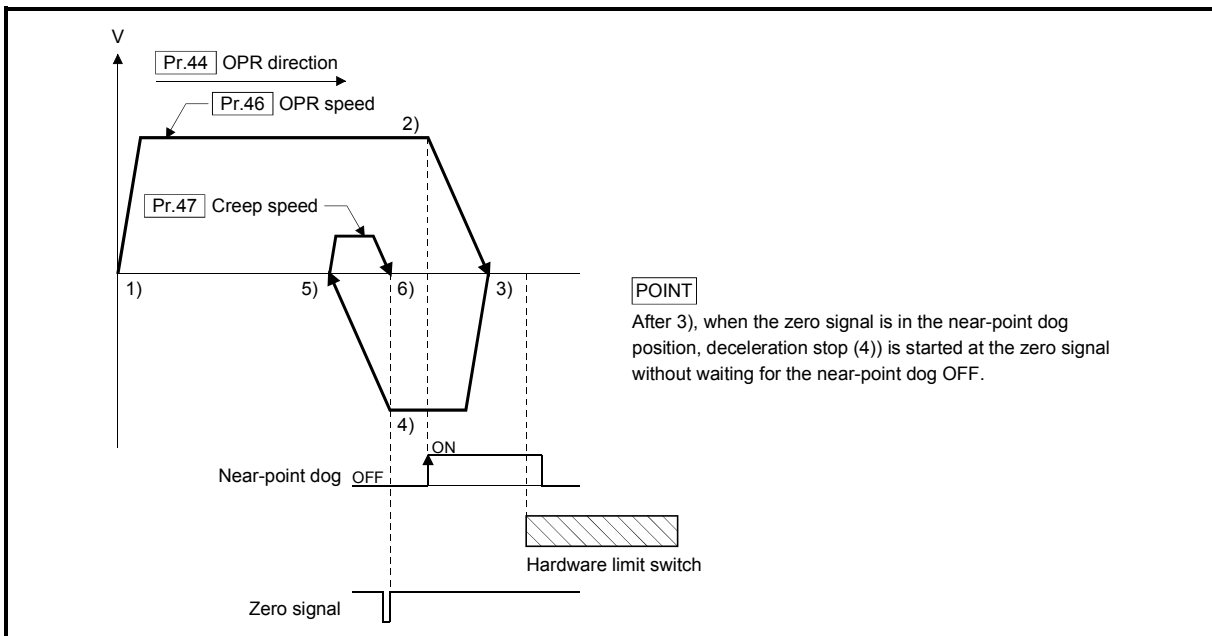

Fig. 8.10 Scale origin signal detection method machine OPR
- (7) Do not use the scale origin signal detection method OPR for the machine with the backlash.
- (8) When using the direct drive motor, make it passed the Z phase once before reaching 3) of Fig. 8.10.